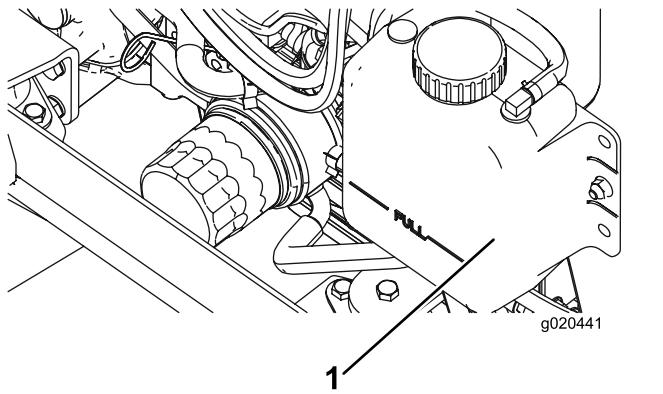

Figure 96
1. Carefully remove the radiator cap and expansion-tank cap (Figure 96).